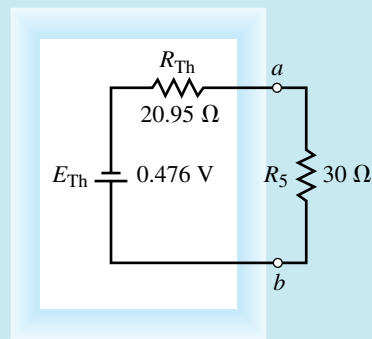

FIGURE 9-24
Step 6: The resulting Thévenin circuit is shown in Figure 9-24.
From the circuit of Figure 9-24, it is now possible to calculate the current through the resistor R_5 as